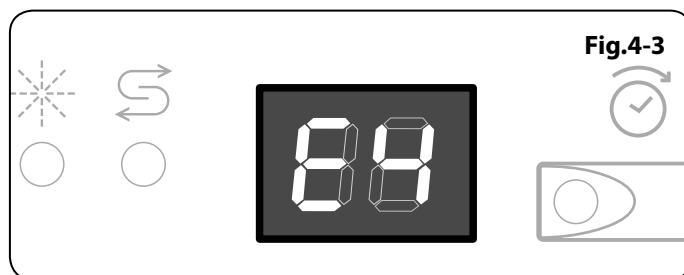

Fig.4-3
- When the time remaining indicator blinks 'E4' (**Fig.4-3**). Have you checked if the drain hose is crimped or bent? Is the drain hose too high?